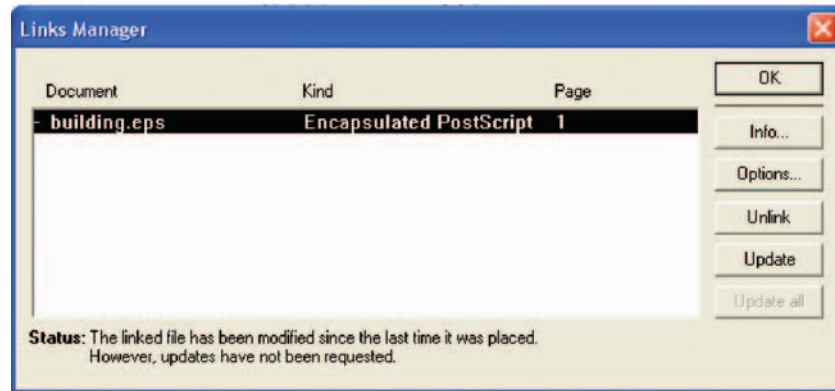

Fig. 10.6 The Links Manager dialog of PageMaker
8. Go back into **PageMaker** and *click Links Manager...* in the **File** drop-down menu. The **Links Manager** dialog appears (Fig. 10.6).